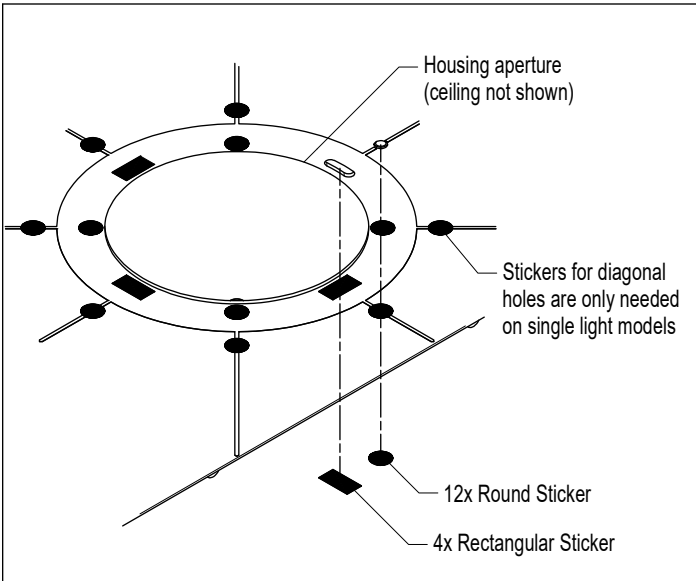

FIG 3.1 Install Housing Stickers
- STEP 3** To reduce possibility of light leak, apply round & rectangular Stickers over unused holes & slots around each housing aperture as shown (prior to installing ceiling) - FIG 3.1.